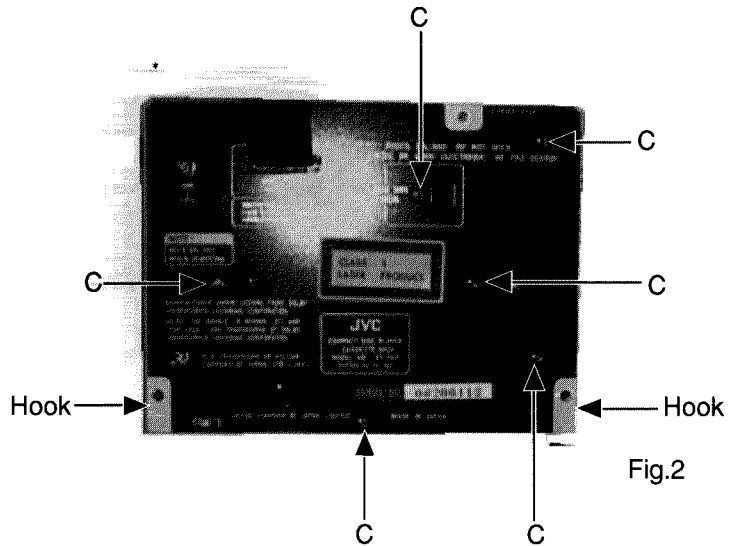

Fig.2
- 1.Remove 6 screws(C)fastening rear panel(Fig.2).